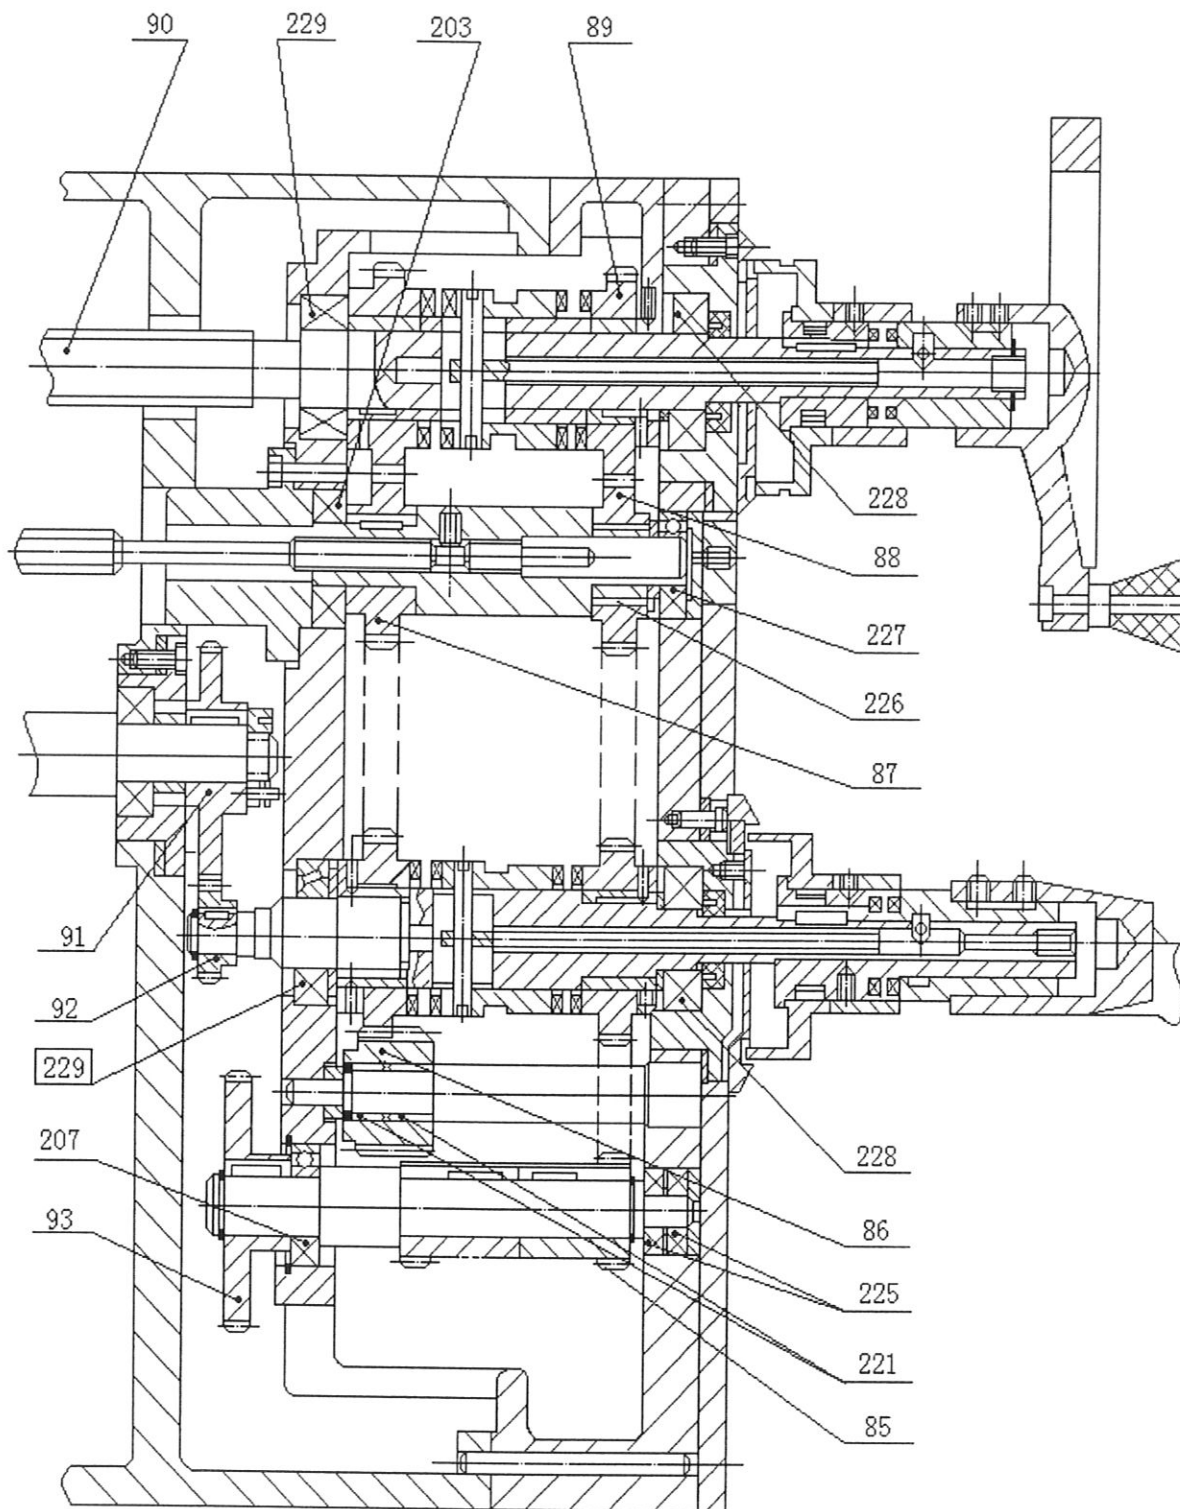

Fig.9 Structure of vertical lead-screw of the knee (ladder type lead-screw)
3.3.5 Knee & Table(see Fig.9~14)